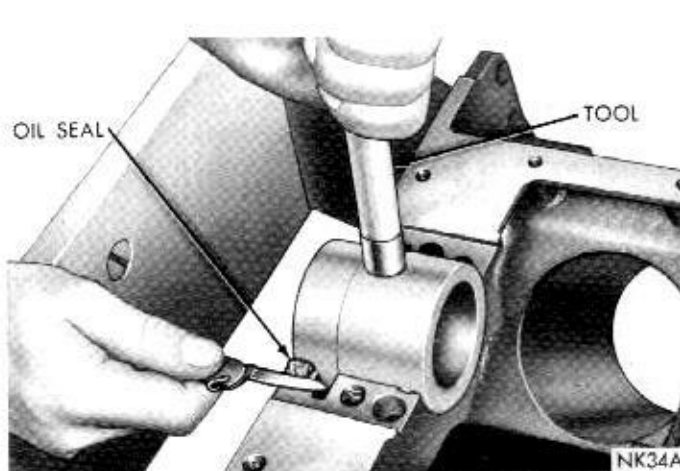

Fig. 43—Trimming Rear Main Upper Oil Seal
(3) Hold tool in this position and cut off the portion of seal that extends above the block on both sides, (Fig. 43).